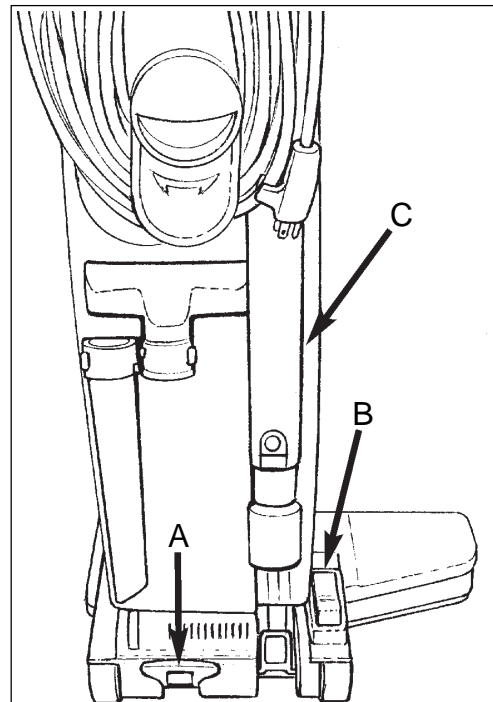

Figure 8
The Handle Release Pedal (See figure 8, item A)
The Height Adjustment (See figure 8, item B)
The Wand (See figure 8, item C)
4. Press the handle release pedal (see figure 8, item A).